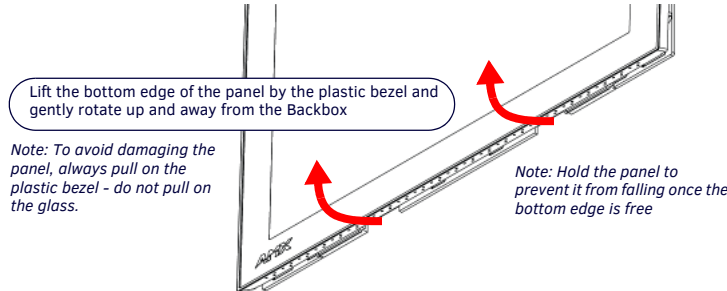

FIG. 7 RMBK-1001/BACKBOX ASSEMBLY (RELEASING THE BOTTOM EDGE OF THE PANEL)
- Grasp the bottom of the panel and pull gently outward until the side of the panel is free of the snap. Use your other hand to stabilize the front of the touch panel (FIG. 7):